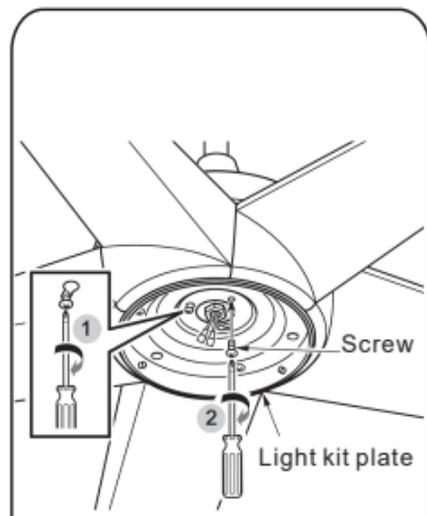

Fig.21
Step 3: Align the round hole of the light kit plate with light kit adapter, tighten all 3 screws.(Fig. 21)